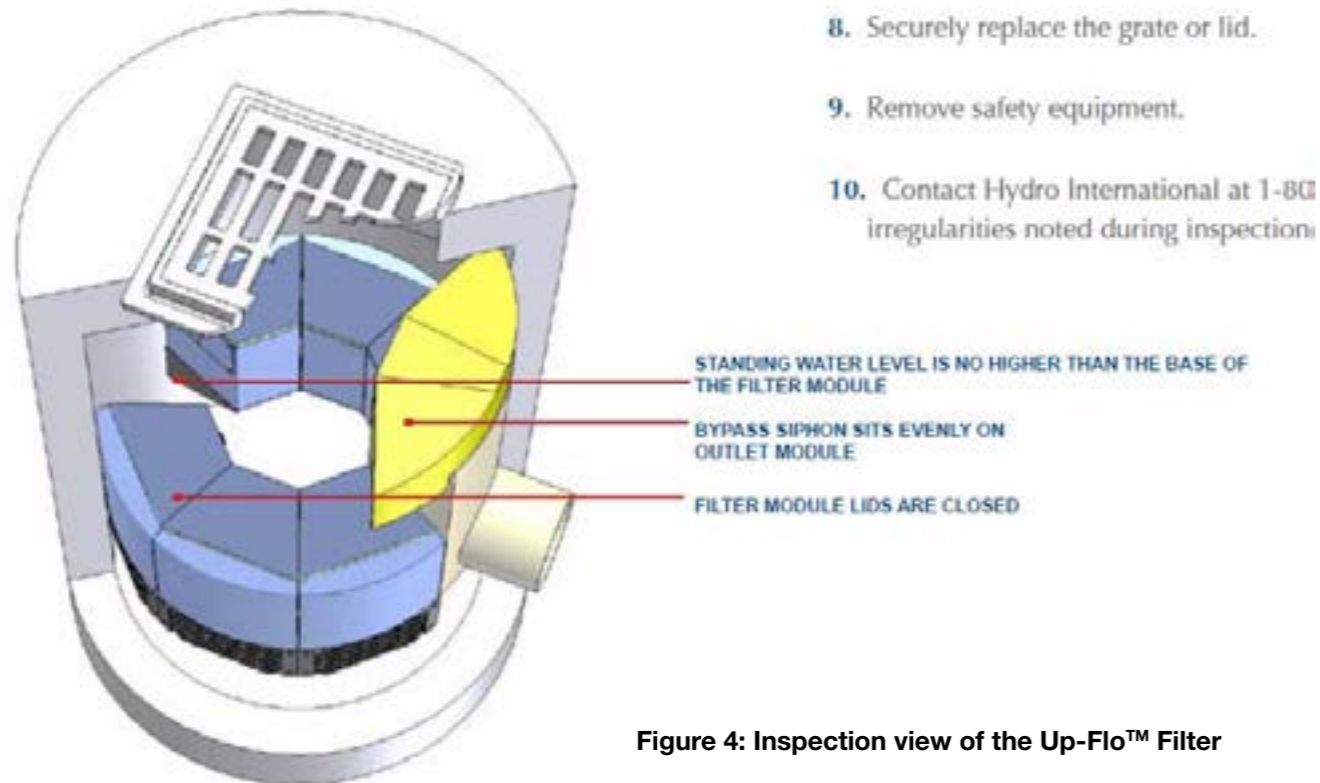

Figure 4: Inspection view of the Up-Flo™ Filter
3. Without entering the vessel, look down into the chamber to inspect the inside. Make note of any irregularities, see Figure 4 for typical inspection view.
7. On the maintenance log provided, record the date, unit location, estimated volume of floatables and gross pollutants removed, and the depth of sediment measured. Also note any apparent irregularities such as damaged components or high standing water level (see Figure 4 for the standing water level).
4. If the standing water level of the sump is above the base of the filter modules (see Figure 4), tug the Pull Chain(s) to release the Drain Down Plug(s). Allow the excess water to drain out of the chamber.